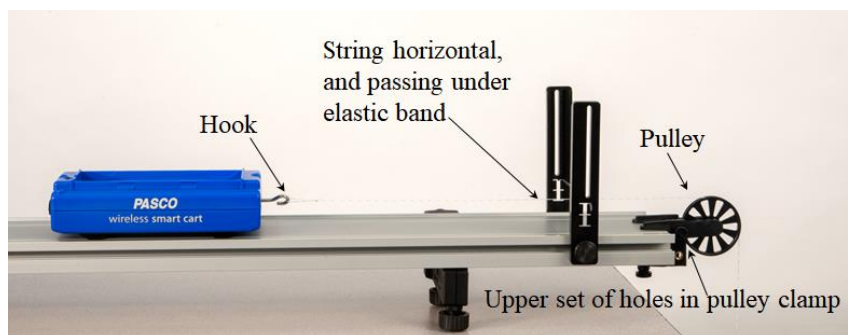

Figure 3: Pulley, Hook, and String
3. As shown in Figure 3, set up the pulley, hook, string, and hanging mass as follows: